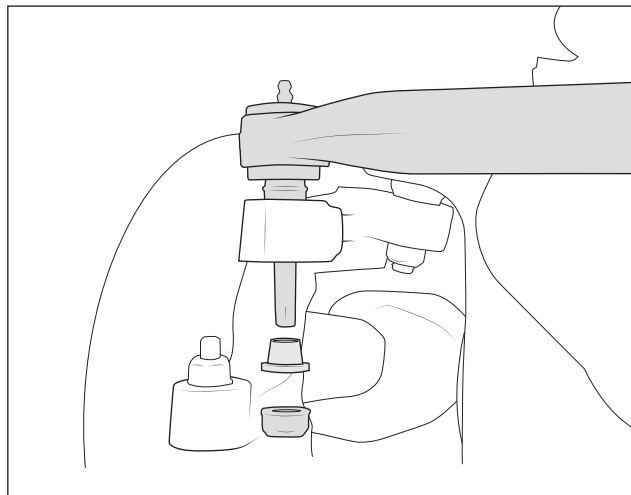

Figure 35
- c. Install new draglink into knuckle. Install tapered insert from bottom side of knuckle and secure with provided nut. Torque nut to **120-130 ft-lb.** (fig. 35).